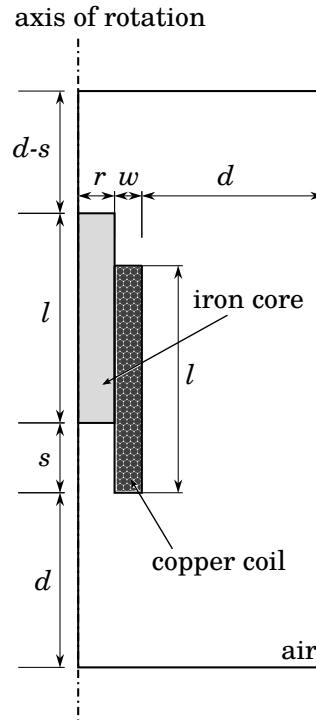

Figure 1: Inductive sensor
The **axis-symmetric** setup as displayed in Fig. 1 shows an inductive positioning sensor, which consists of a copper coil and a movable iron core. The sensor operates in air. The working principle of such kind of sensors is to measure the inductance $L(s)$ of the coil which depends on the offset s between coil and iron core. If the relation $s \Rightarrow L(s)$ is known, the quantity of interest s can be calculated from the measureable value of $L(s)$.
1. Setup the geometry as shown in Fig. 1. For the yet undetermined distance d between sensor and outer boundary choose **6** different values between 50 mm and 150 mm. As meshsize choose 1 mm.